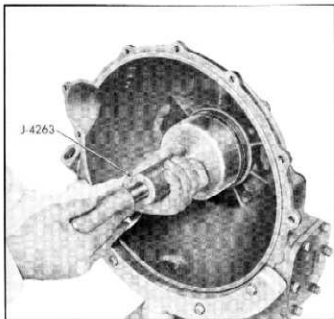

Fig. 71—Removing Front Oil Pump
15. Install front pump driver tool, J-4263, and remove pump assembly from turbine housing (fig. 71).